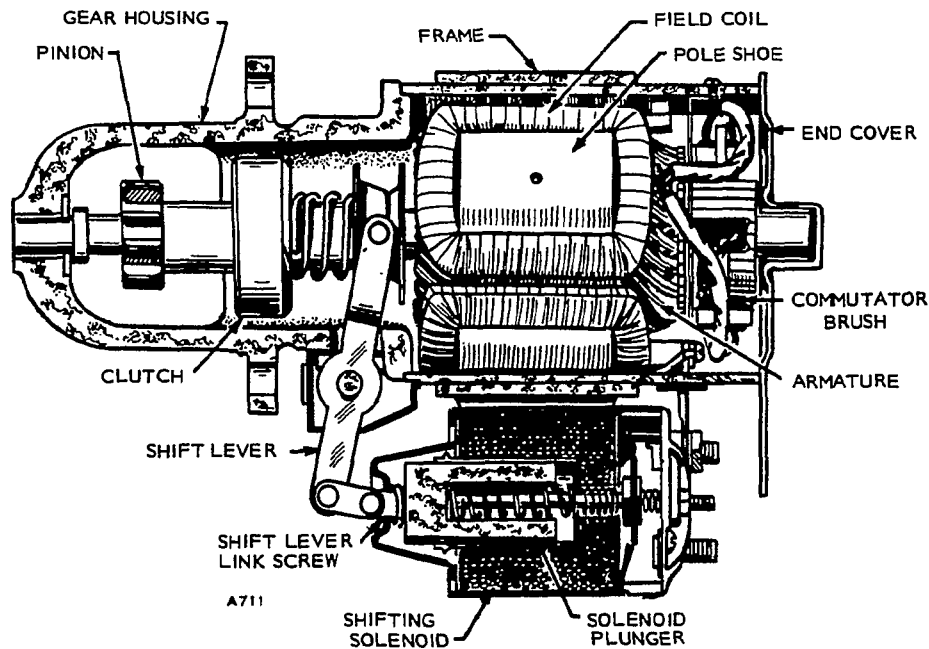

FIGURE 73. PRESTOLITE STARTER
1. Remove electrical connections to control and battery at the shifting solenoid, Figure 73.